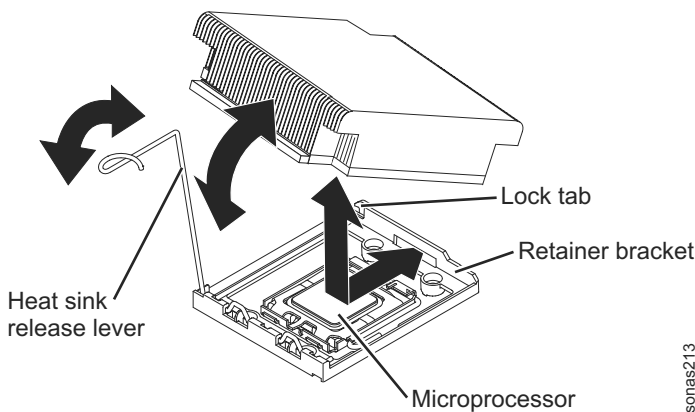

Figure 44. Aligning the heat sink above the microprocessor
16. Align the heat sink above the microprocessor with the thermal grease side down. See Figure 44.